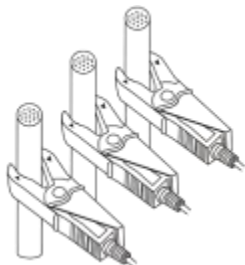

Figure 1
- Please use the 3 clamps to clamp onto the conductors (Figure 1).